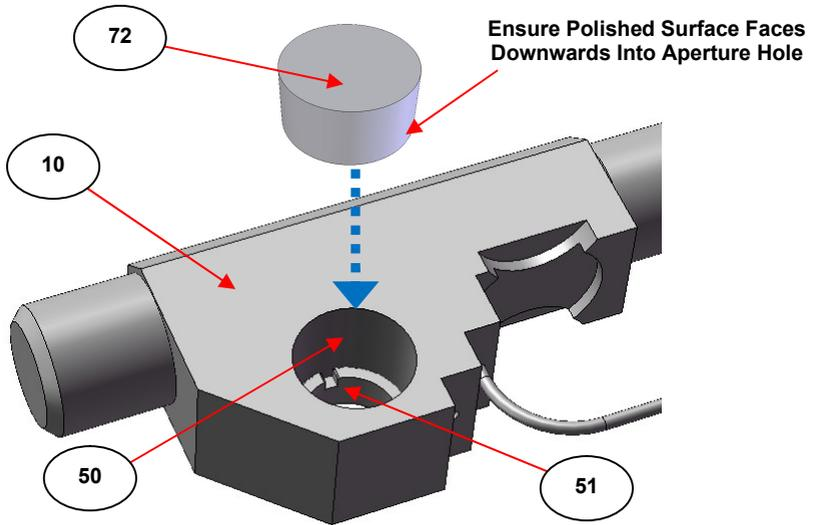

Fig 19. Fitting of Reference Mirror (72) into Aperture Hole (50)
The reference mirror (72) or appropriate sample is simply placed into the aperture hole (50) from above to rest on the installed and fixed keep ring (51) allowing for a consistent and reproducible surface level for analysis of solid sample types. (See Fig 19.)